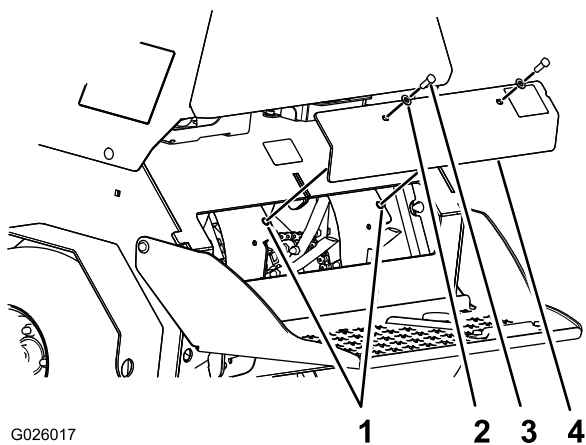

Figure 66
3. Remove the 2 bolt (3/8 x 1 inch) and 2 washers (3/8 inch) that secure the rear-cover panel to the chassis, and remove the panel (Figure 66).
6. Align the holes in the rear-cover panel to the holes in the chassis (Figure 66).
7. Secure the cover panel to the chassis with the 2 bolts and 2 washers (Figure 66) that you removed in step 3, and torque the bolts to 37 to 45 N-m (27 to 33 lb-in)